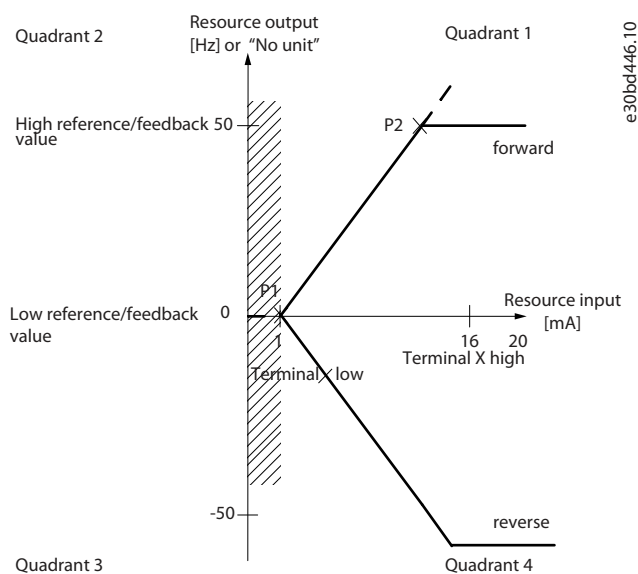

Figure 48: Size of Dead Band
- Set either the minimum reference value (see the table in Table 21 for relevant parameter) or maximum reference value at 0. In other words, either P1 or P2 must be on the X-axis in the Figure 48.
P1 or P2 defines the size of the dead band as shown in the Figure 48.